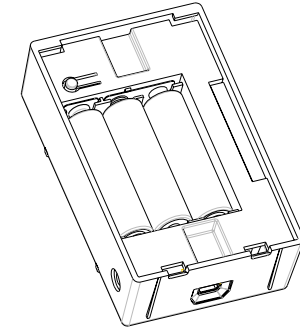

FIGURE 7
- Fit three 1.5V AA batteries supplied to the battery compartment. Please note, the adoption of alkaline battery is highly recommended as it would last longer (FIGURE 7).